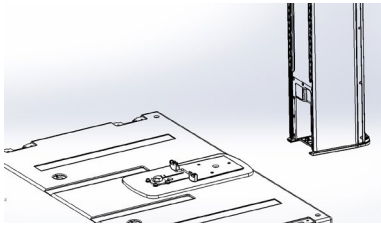

Figure 9 - Slide first AC6 to mount plate
- Slide into place (Figure 9). An audible clicking sound may be heard if pins are not in up position.